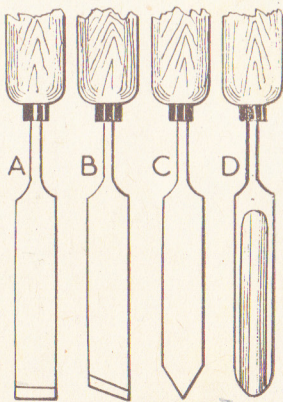

Fig. 3—The scrapers and cutters required
The scraper (A of Fig. 3) greatly resembles an ordinary woodwork firmer chisel; it is used for smoothing a rough surface in the manner to be described later. The chisel has a sloping cutting edge and is sharpened and ground on both sides (see B of Fig. 3).
The parting tool differs from the chisel in that it is V-shaped at the bottom, while the gouge has a half-round section; these tools are shown at (C) and (D) respectively of Fig. 3.